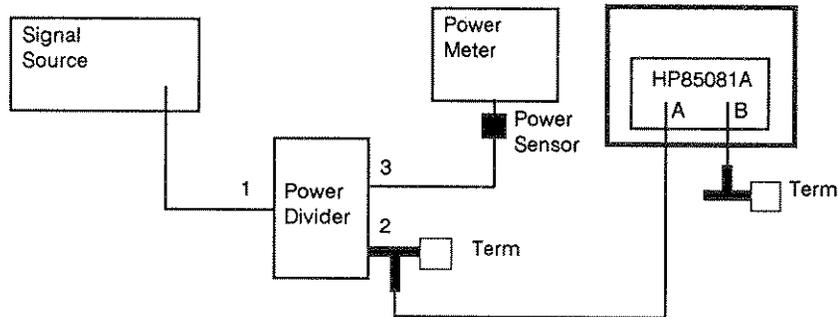

Figure 5-5. Delay Line Adjust Setup
1. Configure the equipment as shown in Figure 5-5.
7. Reconfigure the equipment as shown in Figure 5-5.